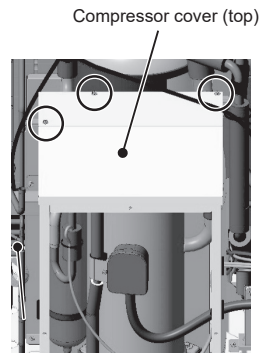

Figure 2
- (2) Remove the compressor cover (top). (3 screws, Figure 2)